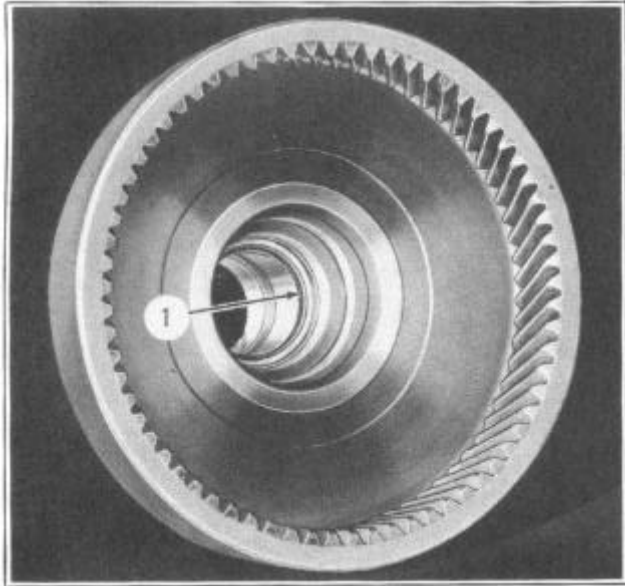

FIGURE 112
26. Remove the inner "O" ring seal (1), Figure 112, from the inside bore of the rear ring gear. A scratch awl will greatly facilitate the removal of the seal. Discard old seal.